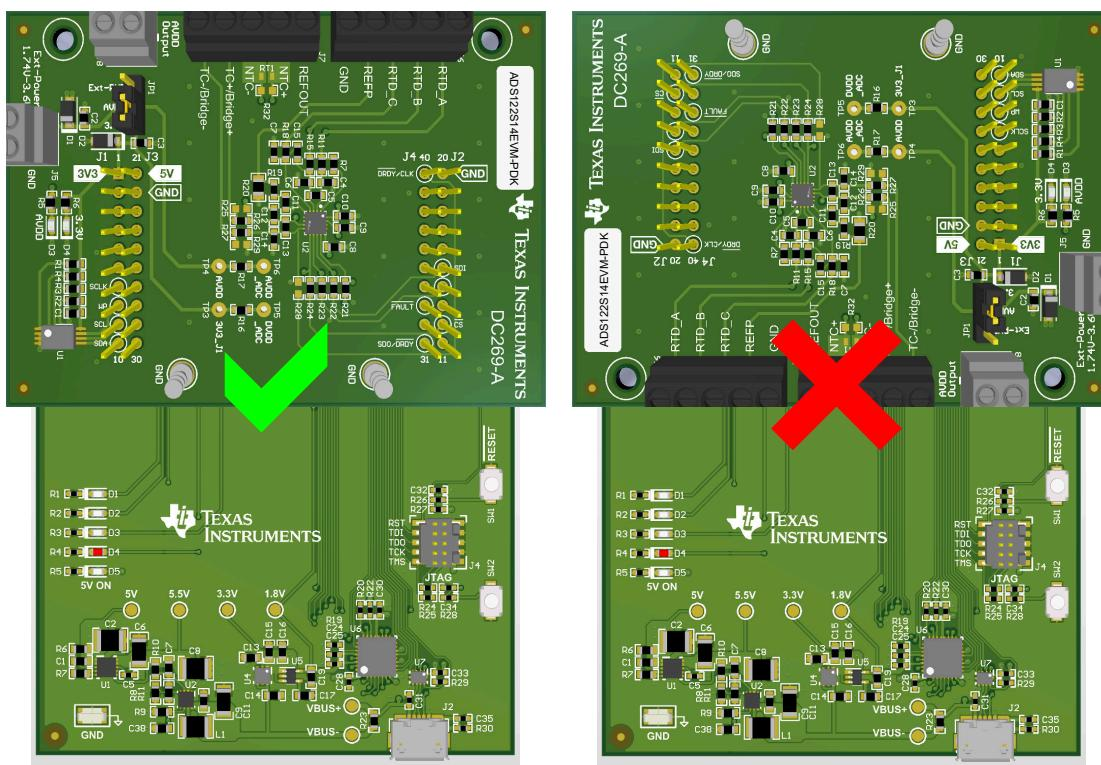

Figure 1-2. Connecting the DC269A to the PAMB Controller Card
2. If the PAMB controller card and the ADS122S14EVM are not already assembled, connect the ADS122S14EVM to the PAMB controller card as shown in the left image in Figure 1-2.